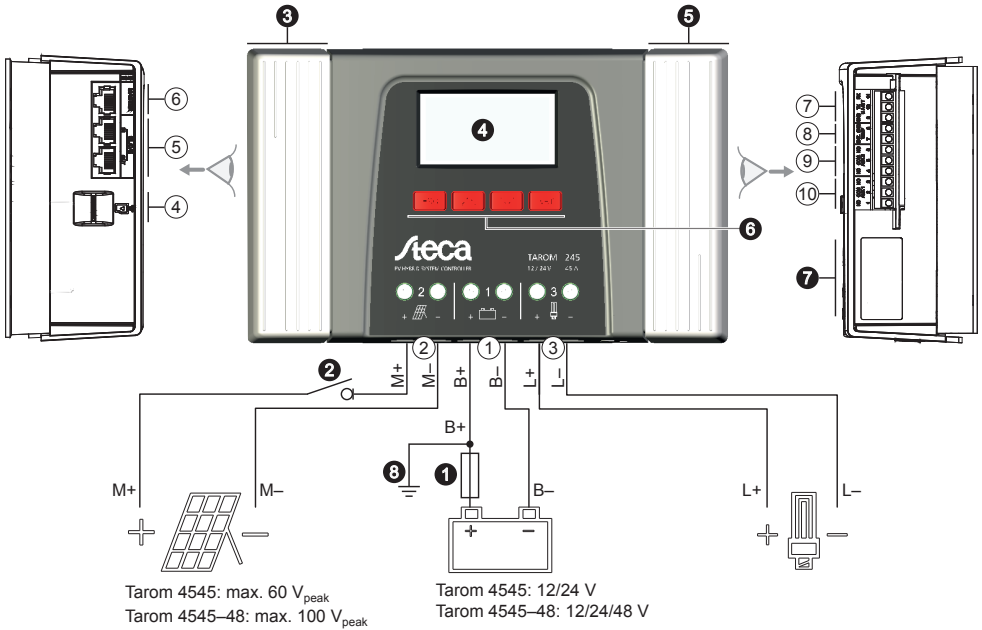

Fig. 1: Overview of casing and connections
### 9.2.1 RJ45 socket for Master bus (Ⓣ in Fig. 1)
### 9.2.2 RJ45 socket for Slave bus (Ⓢ in Fig. 1)
### 9.2.3 Slot for microSD card (④ in Fig. 1)
### 9.2.4 Relay outputs AUX 1, AUX 2 (⑨, ⑩ in Fig. 1)